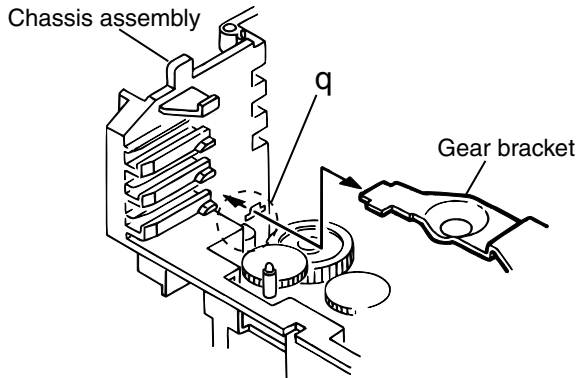

Fig.20
3. From the notch q section on the chassis assembly fixing the edge of gear bracket, remove and take out the gear bracket(See Fig. 20).